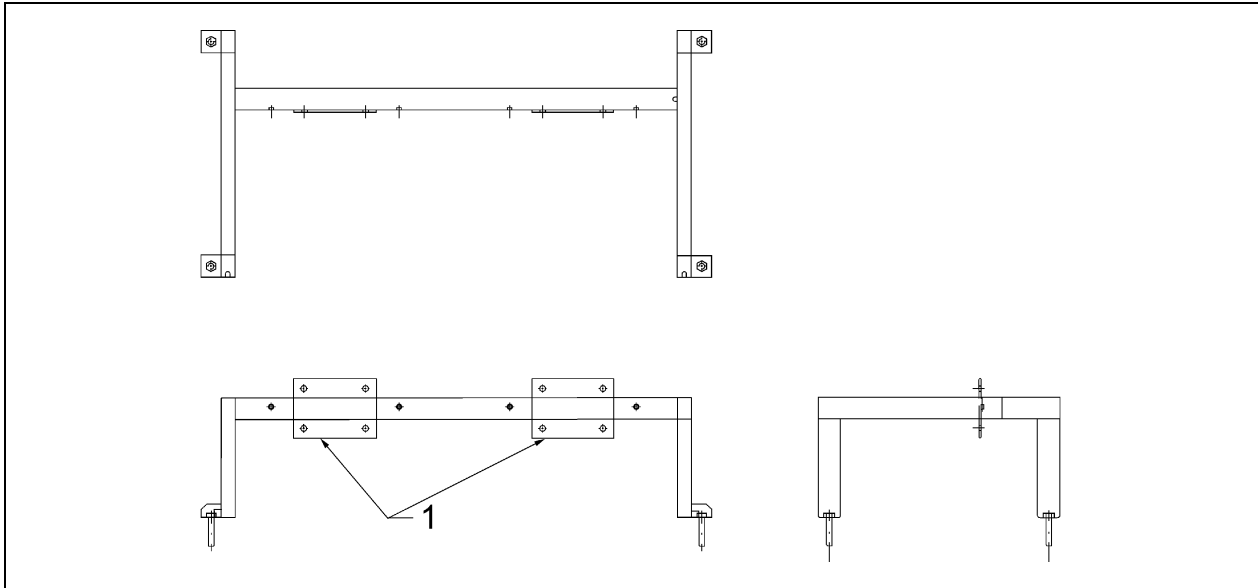

Figure 7: #452898 support of the fans. (1) Vertical bases for motors.
22. Install #510342 shock absorber caps above holes 2 and 3 of figure 6. Add #500446 washers and install #452898 fan support (figure 7) above them. Secure using #502617 hardware.
24. Install the fan-motor assemblies in their cylindrical housings (figure 6, item 1) then fasten the motors to their vertical bases (figure 7, item 1). If necessary, use #283482 spacers with their washers, screws and nuts (#500441, #502528, #502744) to align the fans in their housings.